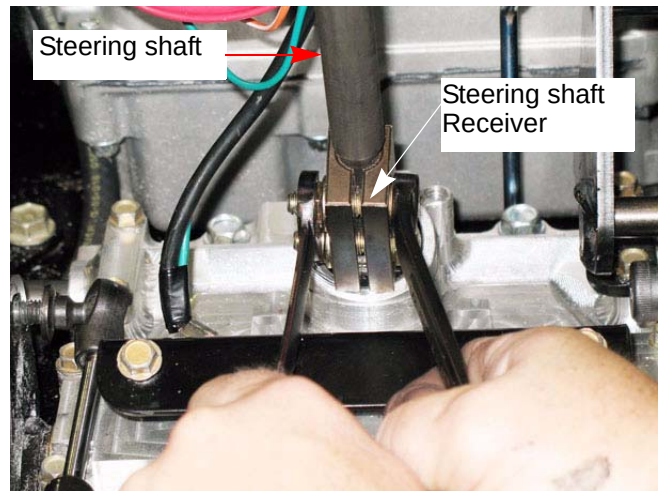

Figure 6.23
6. Remove the steering shaft by removing the two clamp bolts in the steering shaft receiver and lifting the shaft out. See Figure 6.23.